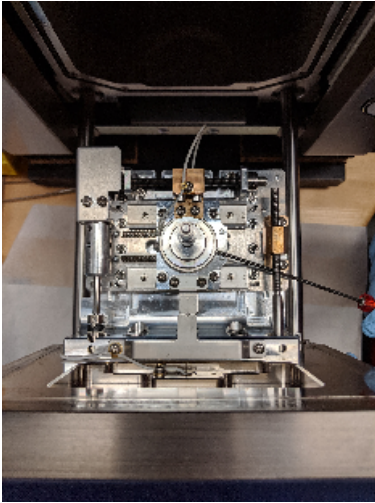

Figure 2. Interior of SEM sample area. Hex Key showing location of Set Screw
2. Using the red Hex Key, turn the set screw about half a turn to loosen the sample stage (Fig 2). Do not unscrew too much or the set screw could fall out.